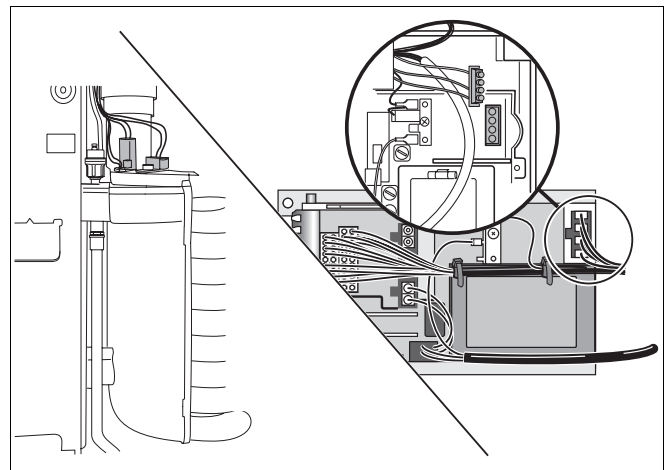

Fig. 64 Checking the glow ingitor
- Unplug and remove glow ingitor from UBA housing (fig. 64).